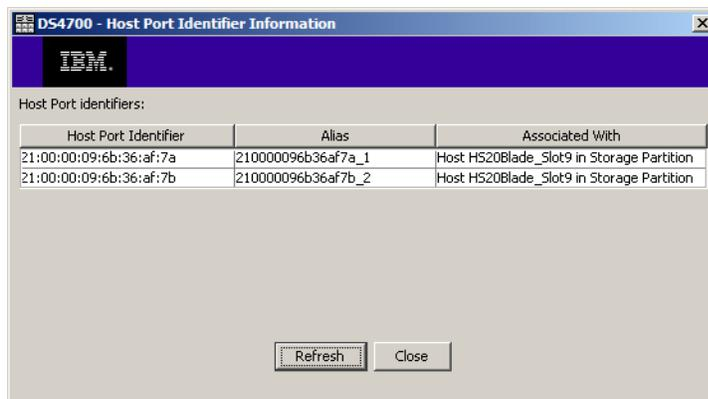

Figure 10-36 HBA port mappings
2. Verify the storage partitioning and host group configuration such that the logical drives are mapped to the correct host and the two host ports on the HBA (Figure 10-36).